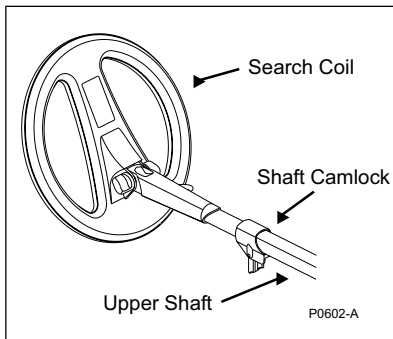

Figure 2.5 Sliding lower shaft into upper shaft
- STEP 2 (Figure 2.5) Slide the lower shaft entirely into the upper shaft until the camlock rests against the yoke.